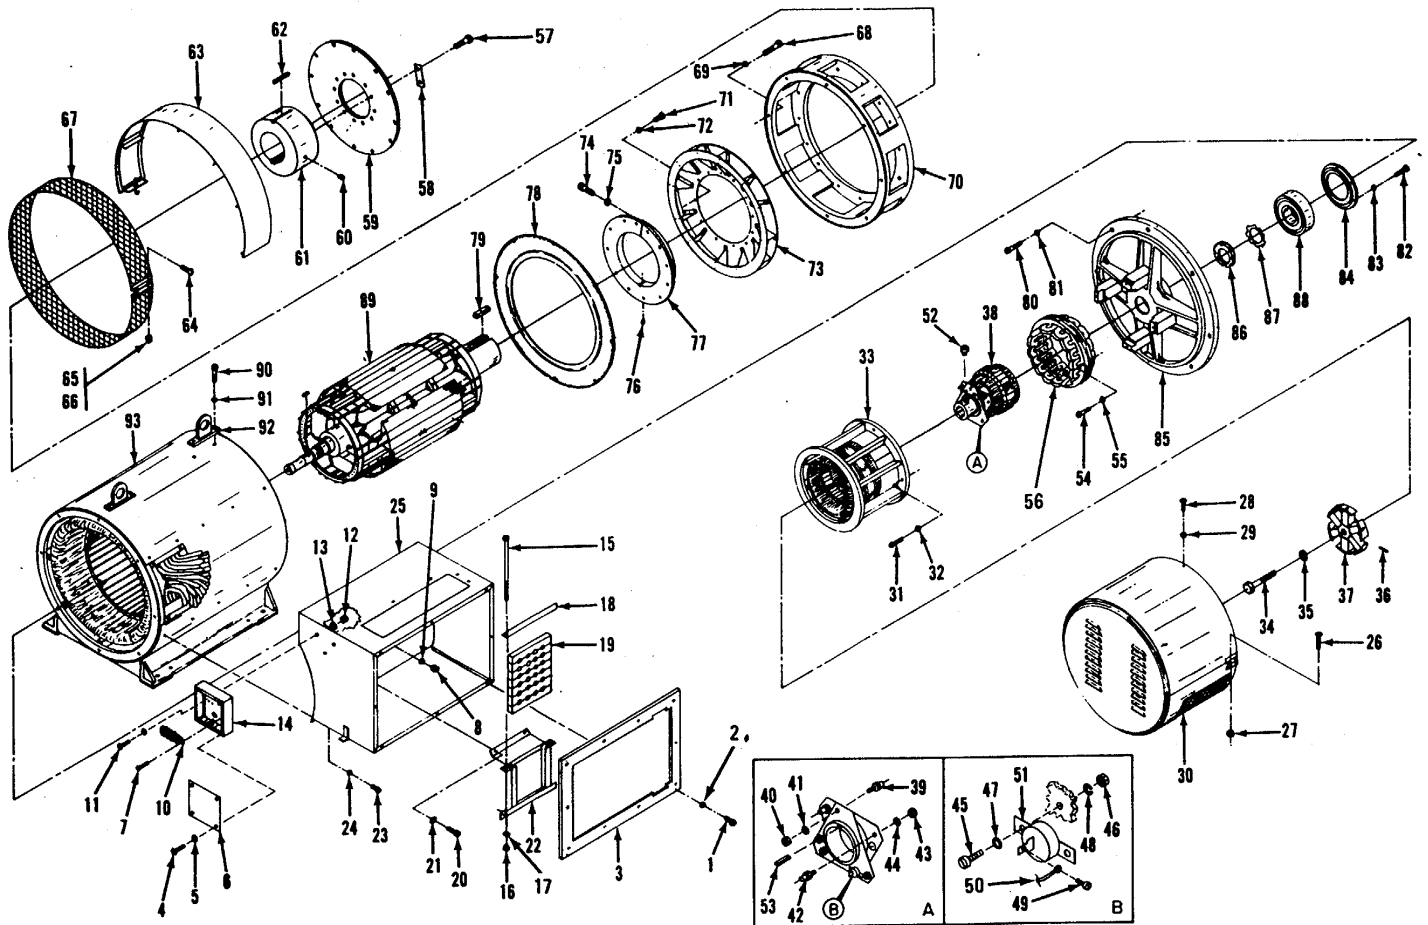

Figure 11-3. Generator Assembly, Exploded View
- (i) Tag and disconnect the two top leads at terminals 1 and 2 of TB210 (14, figure 11-3). Read the exciter field resistance at terminals 1 and 2 with a Wheatstone bridge. The exciter stator field resistance should be  $10.7 \pm 10$  percent ohms at an ambient temperature of  $77^{\circ}\text{F}$  ( $25^{\circ}\text{C}$ ).
- (3) Stator. Perform the following stator winding short circuit test.
- (b) The permanent magnet assembly must be removed prior to removing generator from generator set, as follows (see figure 11-3):
- (1) Remove screws (16 and 28), washers (29), and nuts (27) and remove cover (30).
- (2) Remove screws (31) and washers (32) and remove permanent magnet stator (33).
- (3) Remove bolt (34), washers (35) and spring pin (36) and remove magnet rotor (37).
- (2) Remove screw (15, figure 11-3), nut (16), and lockwasher (17) and separate lead clamp (19) in order to remove generator cables.
- (3) Disconnect and tag wires in lead box (14).
- (4) Remove screws (8), washers (9), screws (23), and washers (24). Separate output box (25) and wires and cables from generator.
- (1) Remove covers (63 and 67, figure 11-3) by removing screws (64), washers (66), and nut (65),
LEGEND FOR FIGURE 11-3